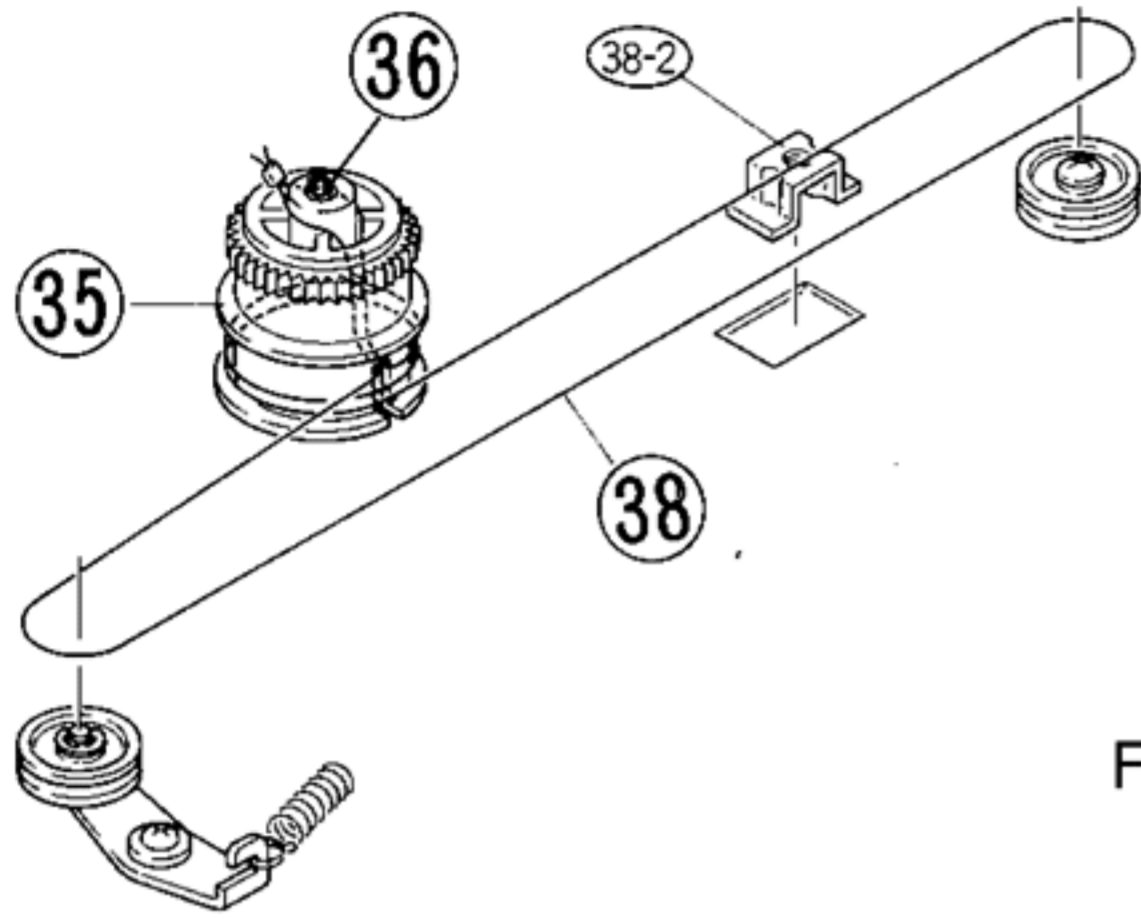

Figure 12
1. Prior to mounting, String K (38) should be rolled two turns by Wheel (35) (Fig. 12).
- Place the Guide (38-2) to the depressed part on case bottom (Fig. 12).